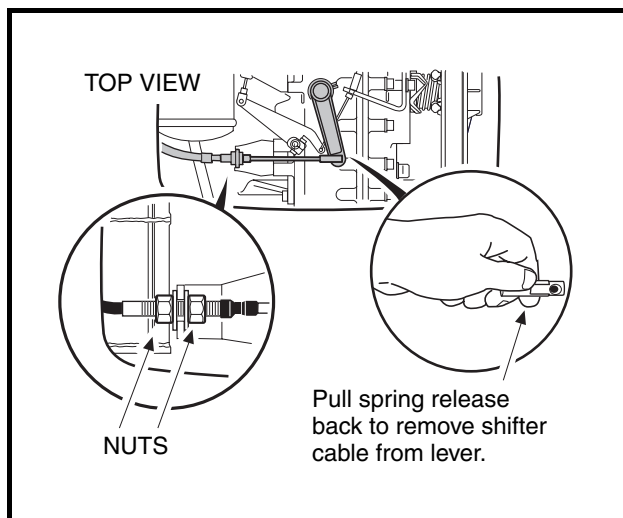

Figure 16-15 Shifter Cable
- 4.7. Loosen nuts securing shifter cable to shifter cable mounting bracket. Then disconnect the shifter cable rod end from the shifter arm on the unitized transaxle and remove the cable from the cable mounting bracket **(Figure 16-15, Page 16-9)**.